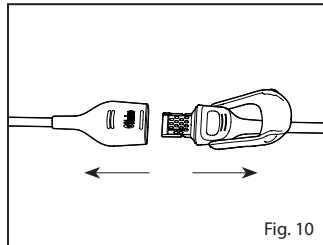

Fig. 10
2. Refer to **Fig. 10**. Pull firmly on the connector to remove it from the patient cable. To avoid damage, pull on the connector, not the cable.